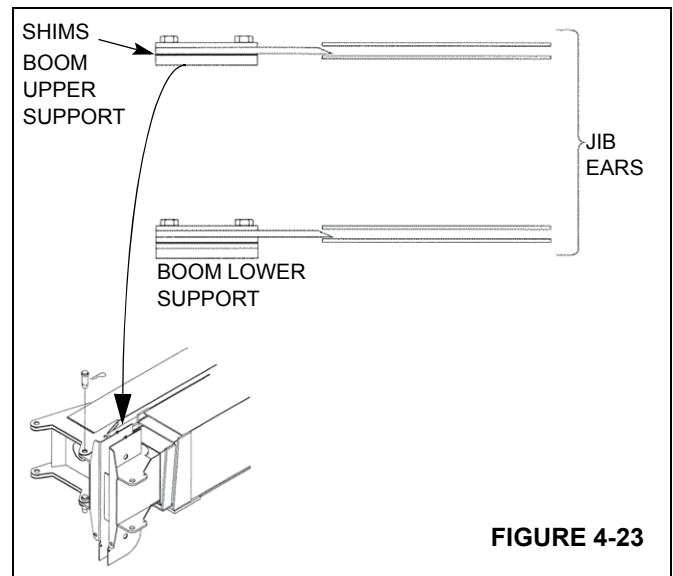

FIGURE 4-23
6. Slowly retract the boom until the jib ears are within 0.50 in (13 mm) of the ear assemblies on the first boom section. Observe the vertical alignment of the jib ears and ear assemblies and add or remove shims until the jib is supported by the jib ears. The jib will typically rest only on the upper support, Figure 4-23.